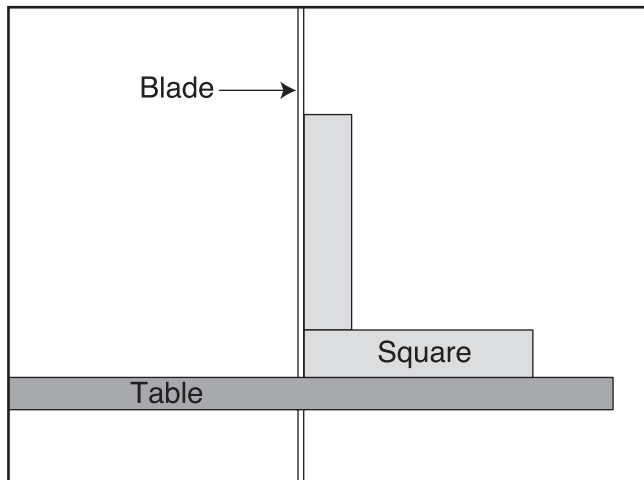

Figure 13. Squaring table to blade.
4. Raise the guide post and place a 6" machinist's square on the table next to the side of the blade as illustrated in **Figure 13**. Tilt the table until the table rests at 90° to the blade, then secure with the table tilt lock lever.